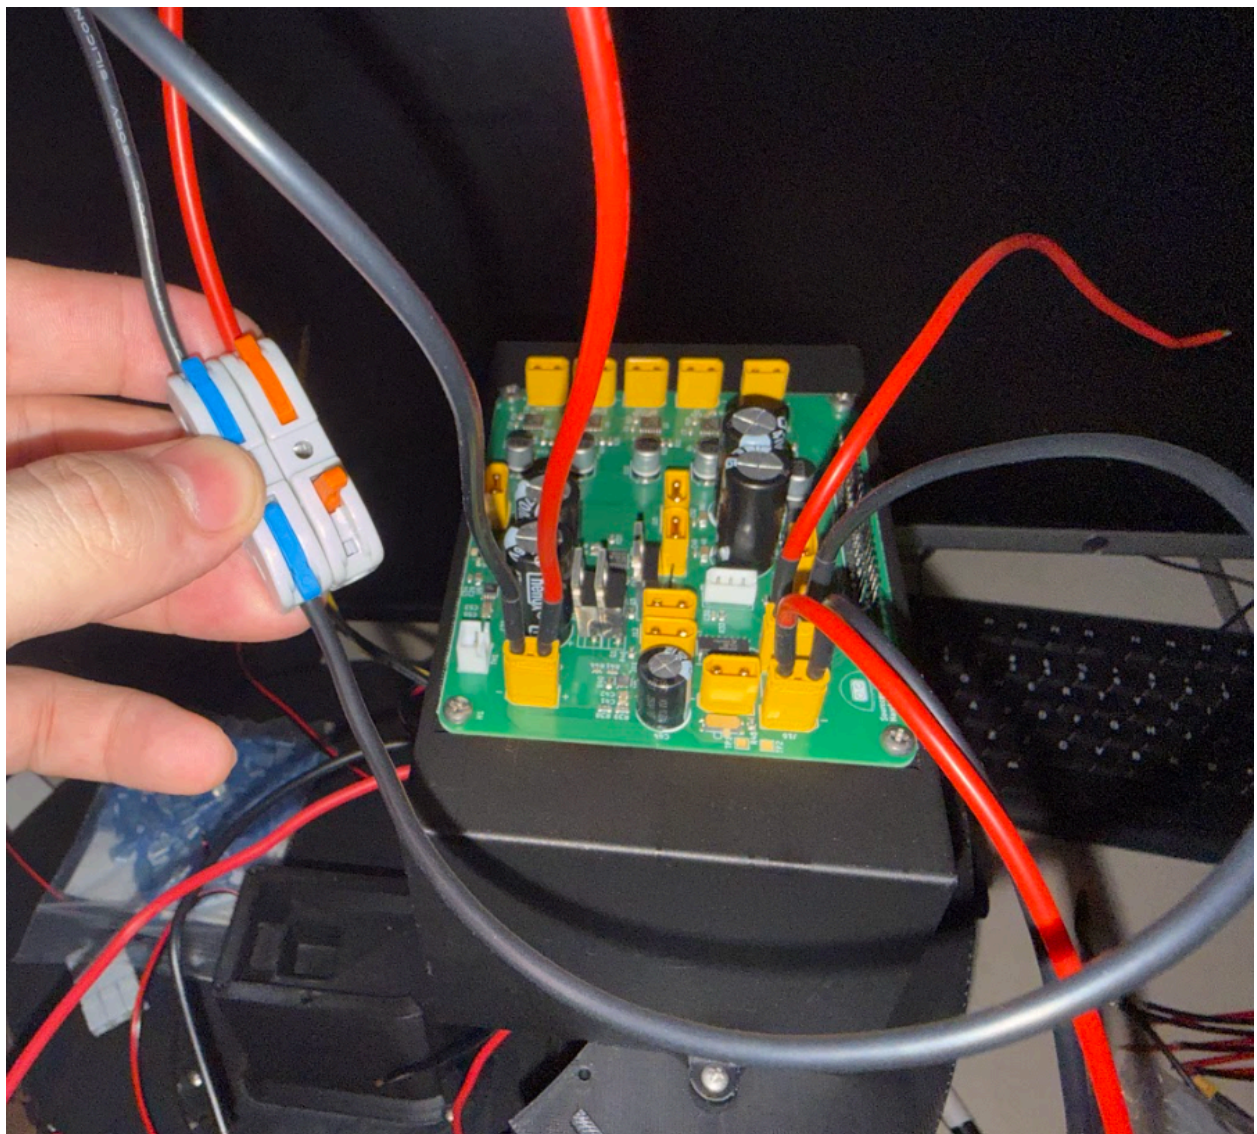

Figure 5.6 - Ground Connection Assembly
i. Connect red side of 350mm XT30 wire to Single Orange Lever Wire Connector from step 3-a-7. Connect black side of XT30 wire to Single Blue Lever Wire Connector as shown in Figure 5.6. Connect XT30 plug to main power port on PCB (Port Red-1) as shown in Figure 5.9